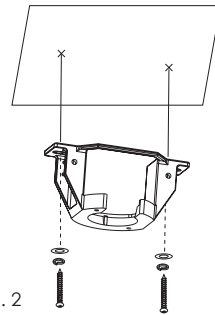

Fig. 2
2. At the selected mounting position, check whether there is a ceiling joist to which the fan can be secured. If there is no suitable support member, install a 45x90mm brace between ceiling joists. Use the hanging bracket as a template to mark the screw holes positions and the center of the bracket. Drill 25mm Dia. hole at the center mark through both plaster and timber brace/Joist for power supply cable to be fed through. Drill 2 x 3.0mm pilot holes for the bracket mounting screws. Attached the bracket and secure with the 5.0 mm x 38mm screws, washers and leveling pads provided. (Fig.2)